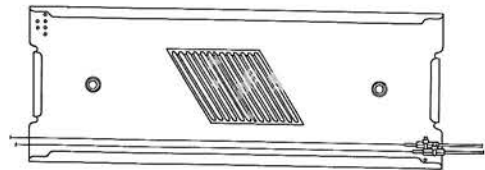

FIGURE 9
8.03 Lay the buffer tubes onto the tray so the felt-taped area will stay within the tie wraps. Securely tighten the tie wraps to hold each buffer tube to the tray, Figure 9.